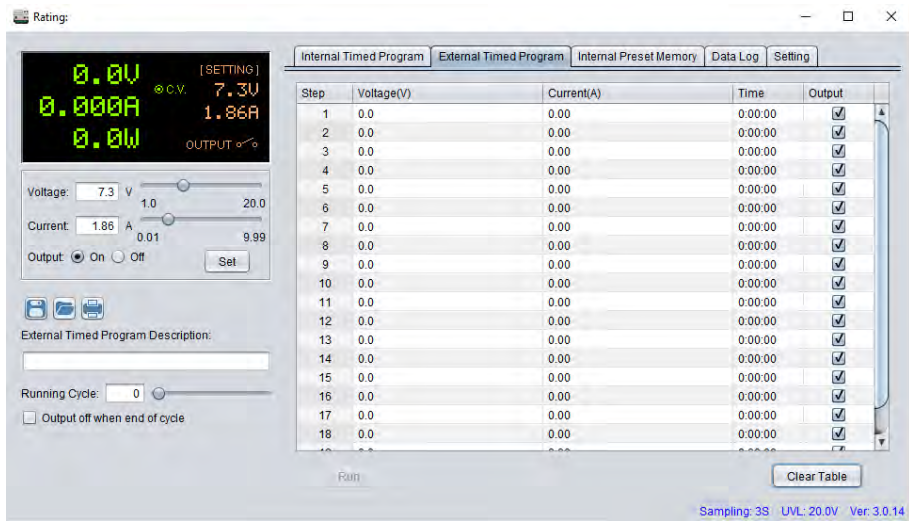

Figure 7.20
1. Click on the “External Timed Program” tab. See Figure 7.20